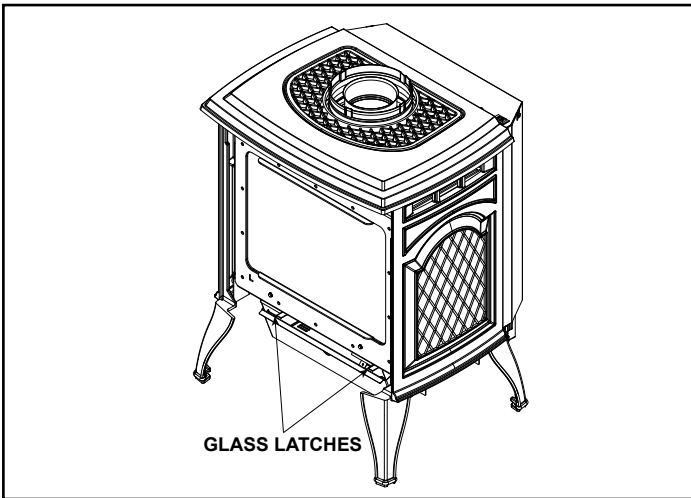

Figure 6.12 Remove Glass Frame
- Release the glass latches on the lower corners of the appliance and remove the glass assembly. See Figure 6.12.